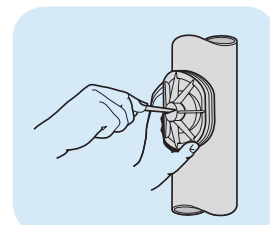

Fig. 20
- Ensure seal ring is lubricated prior to fitting. Tighten the screw whilst pulling the door outwards. Do not over tighten (Fig. 20)